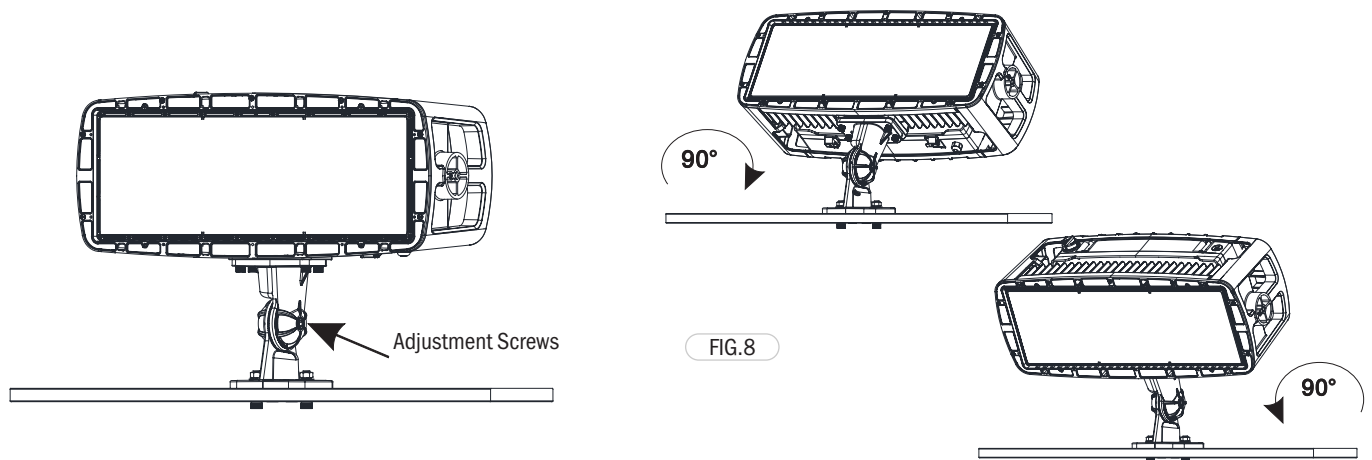

FIG. 8
- 2 Adjust the lighting angle vertically, up or down, according to the required illumination needs. The fixture remains adjustable when hoisted or installed on a crossbar (Figure 8)